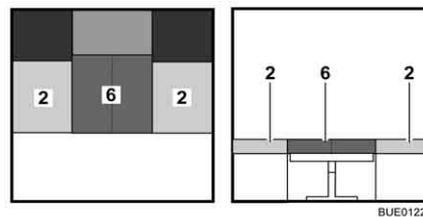

Fig. 100 After conversion
- Unfold the additional cushion (Fig. 100,6) and lay it between the seat cushions (Fig. 100,2).